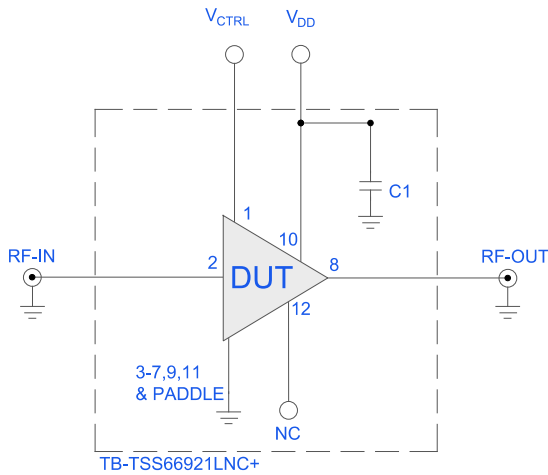

Figure 2. TSS-66921LN+ Characterization and Application Circuit.
1. Tested on Mini-Circuits Characterization Test Board TB-TSS66921LNC+. See Figure 2. Board loss de-embedded to the device.
| Function | Pad Number | Application Description (Refer to Figure 2) |